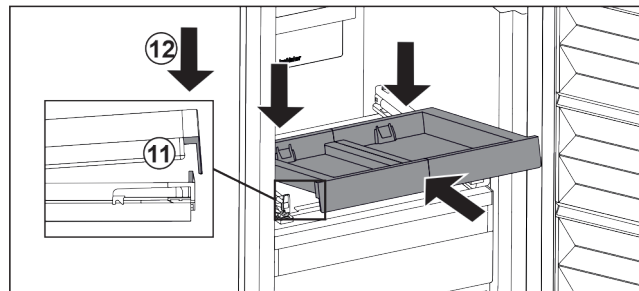

Fig. 103
- ▶ Slide it in at an angle. Make sure that the stop is behind the lug on both sides. Fig. 103 (11)
- ▶ Lower the pull-out board at the front. Fig. 103 (12)